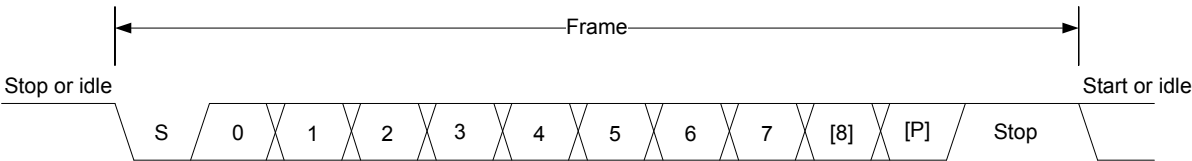

Figure 20.2. LEUART Asynchronous Frame Format
The frame format used by the LEUART consists of a set of data bits in addition to bits for synchronization and optionally a parity bit for error checking. A frame starts with one start-bit (S), where the line is driven low for one bit-period. This signals the start of a frame, and is used for synchronization. Following the start bit are 8 or 9 data bits and an optional parity bit. The data is transmitted with the least significant bit first. Finally, a number of stop-bits, where the line is driven high, end the frame. The frame format is shown in Figure 20.2 LEUART Asynchronous Frame Format on page 692.